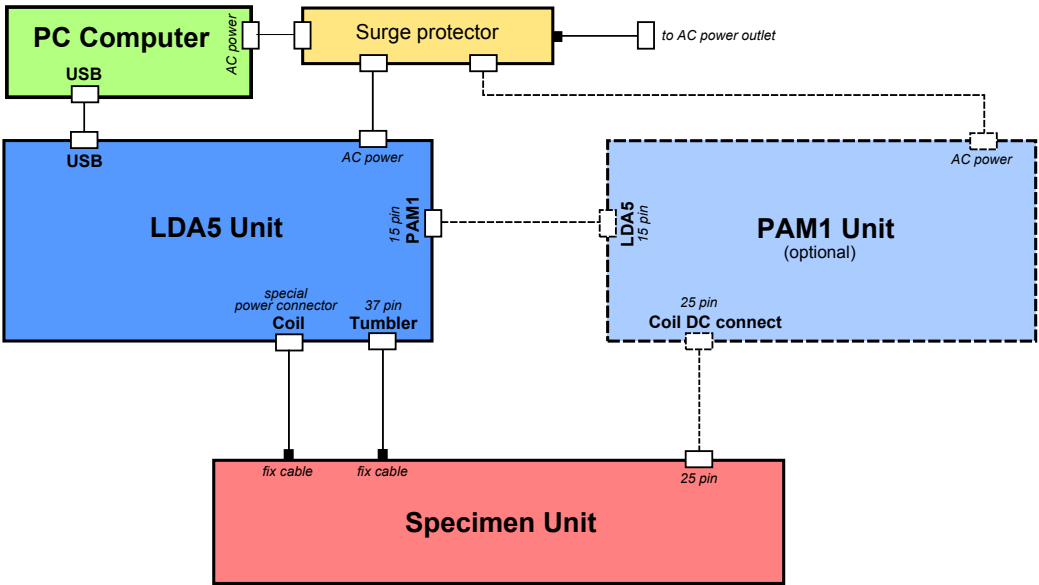

Figure 4: *LDA5/PAM1 interconnecting scheme.*
3. Connect the individual units using the interconnecting cables (Figure 4). The cables have different connectors so any misconnection is impossible. **PC Computer** (Desktop/Notebook/Tablet) is connected to the **LDA5 Unit** via USB cable (provided with the instrument). **LDA5 program must be installed before the USB cable is connected to the computer!**¹ **LDA5 Unit**, and optionally **PAM1 Unit**, are connected to the power outlet via a surge protector.